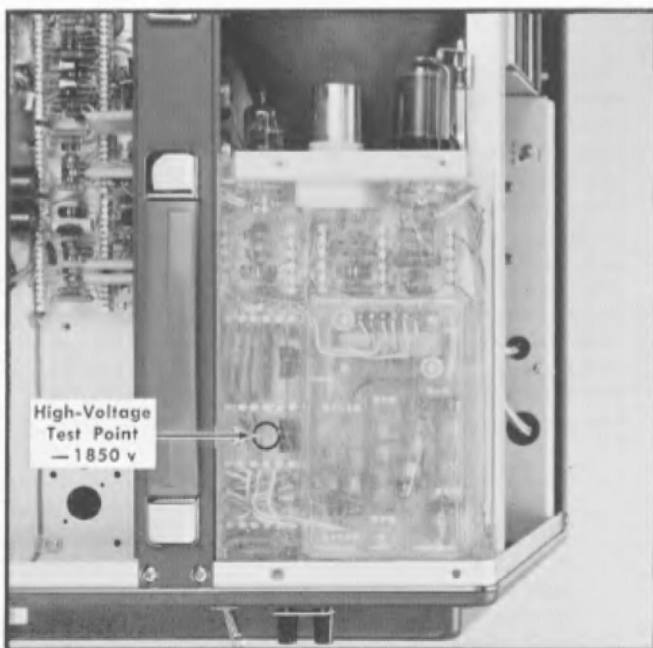

Fig. 5-3. High-voltage test point location (top left rear view).
- a. Set the scale of the VOM to measure  $-1850$  volts and connect the VOM between the high-voltage test point (see Fig. 5-3) and ground.